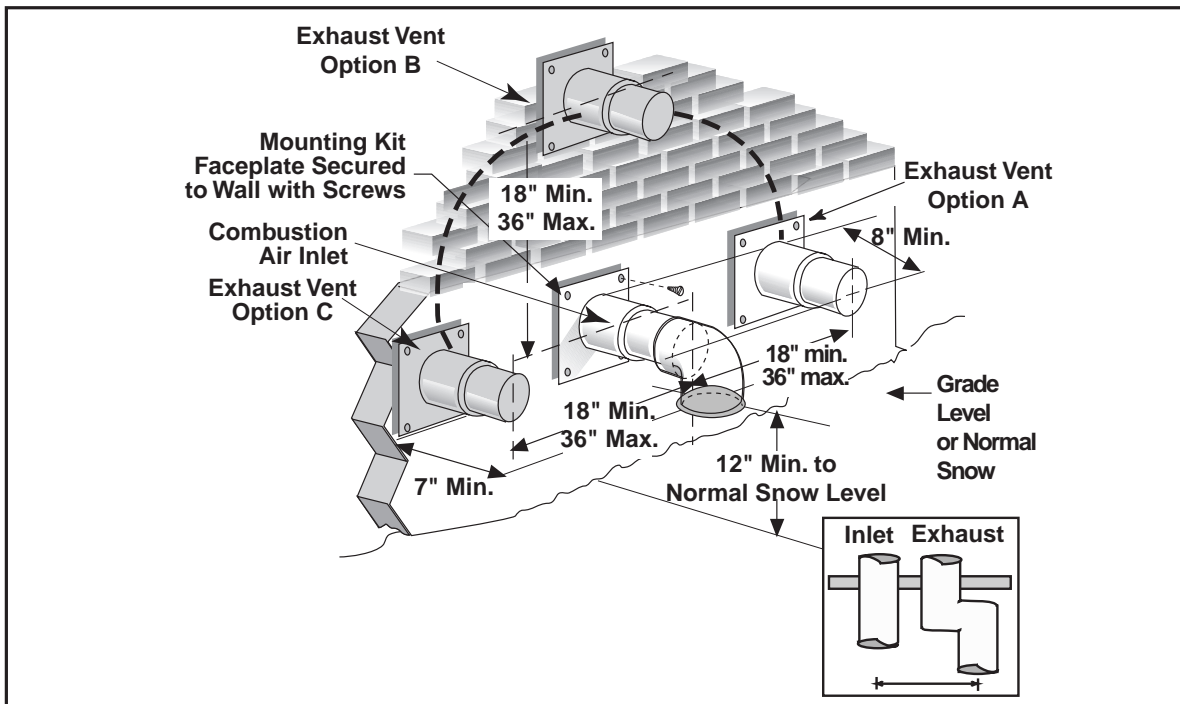

Figure 19. Exhaust and Combustion Air Pipe Clearances
Vent and combustion air intake terminations must be as shown in Figure 19.
Ensure that the combustion air vent and the exhaust vent are configured as shown in Figure 19. Improper vent termination can cause recirculation of the flue gases. This may result in furnace vibration. In severe cases, the furnace will cycle due to the intermittent contact between the flame and the flame sensor. If you note oscillations occurring, check the vent configuration. Make sure that the exhaust vent does not have a 90 degree termination.
4. Insure the combustion air inlet pipe (for a 2 pipe installation) has a 90 degree termination elbow as shown in Figures 19 and 20.